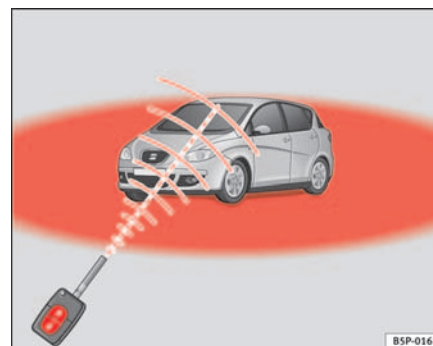

Fig. 65 Range of the remote control
- The remote control functions only when you are in range ⇒ page 99, fig. 65 (red area).